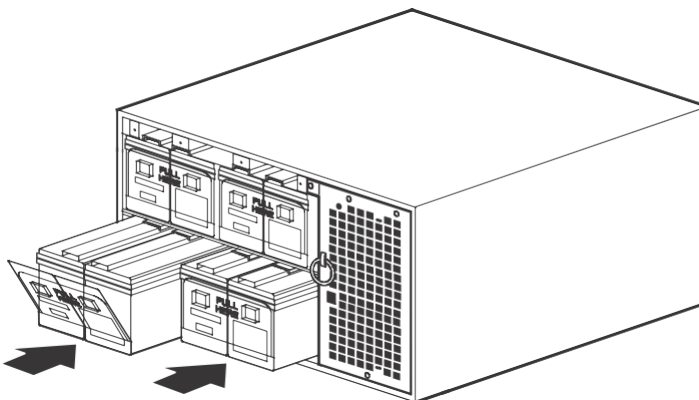
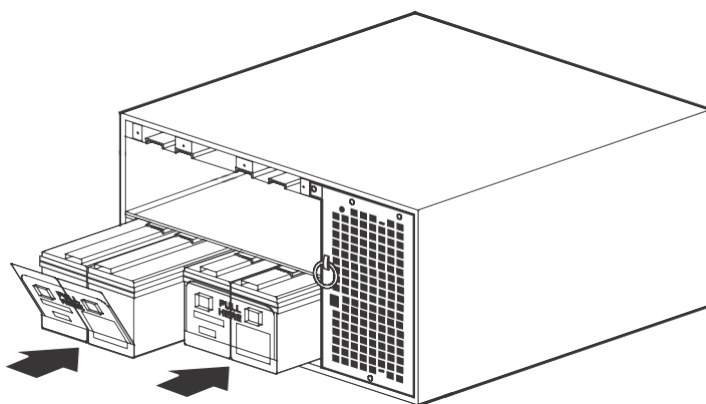

Figure 56. Installing the UPS Battery Trays (Two Battery Strings)
Figure 57. Installing the UPS Single-string Battery Trays for 5.0 kVA BladeUPS
3. Slide the battery trays into the cabinet (see Figure 56 for two battery string installations and Figure 57 for single-string installations). Verify that each tray is properly aligned before sliding the tray in.